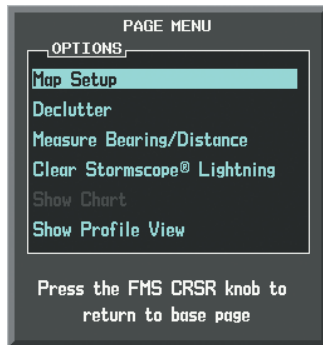

Figure 6-143 Navigation Map Page Menu
- 3) With 'Map Setup' highlighted, press the **ENT** Key (Figure 6-143).